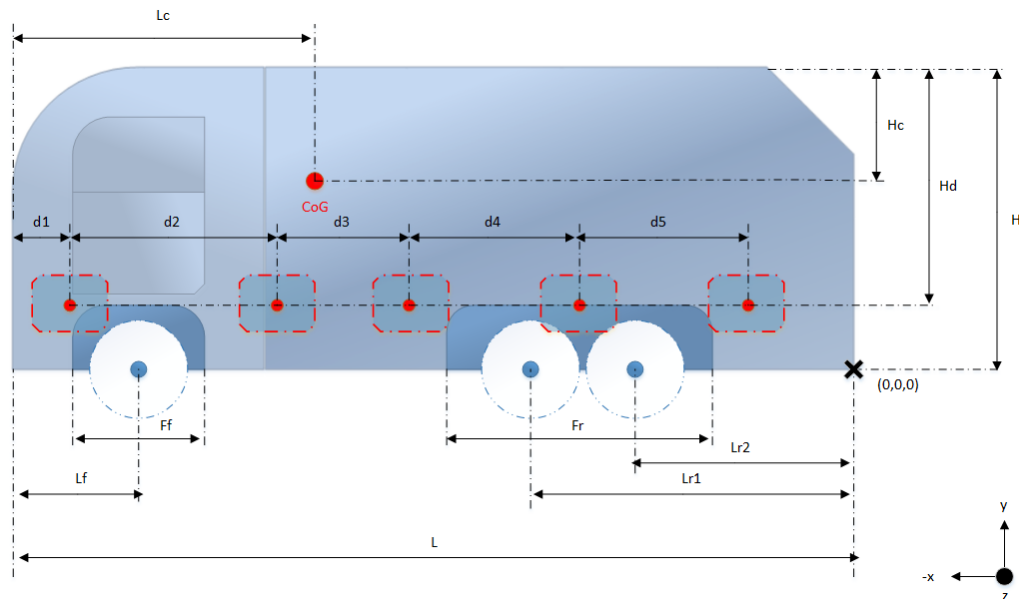
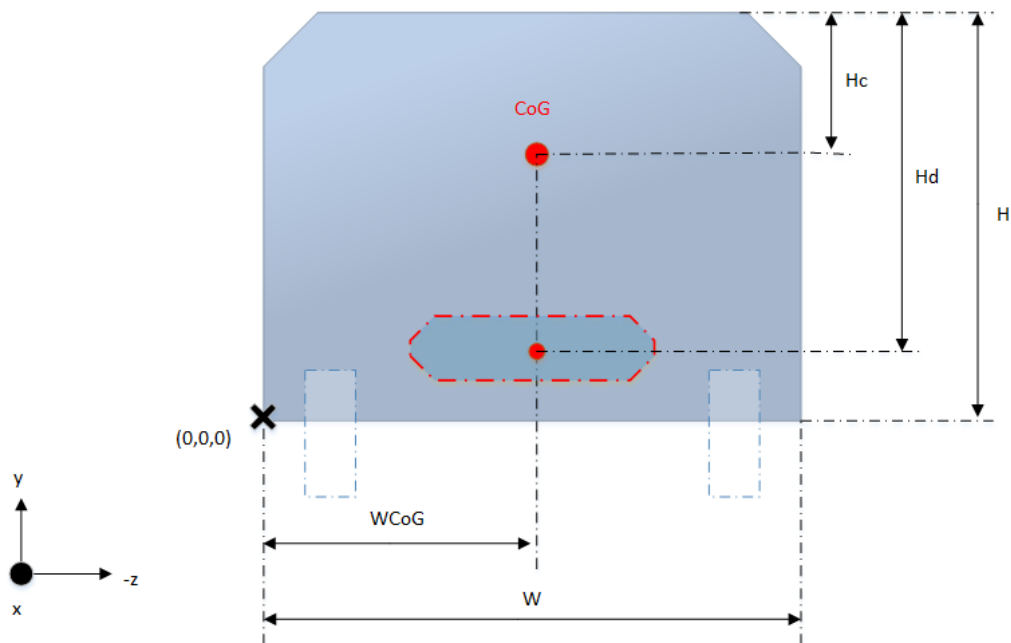
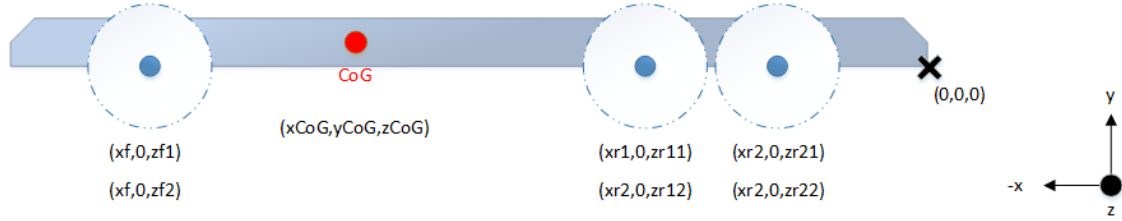
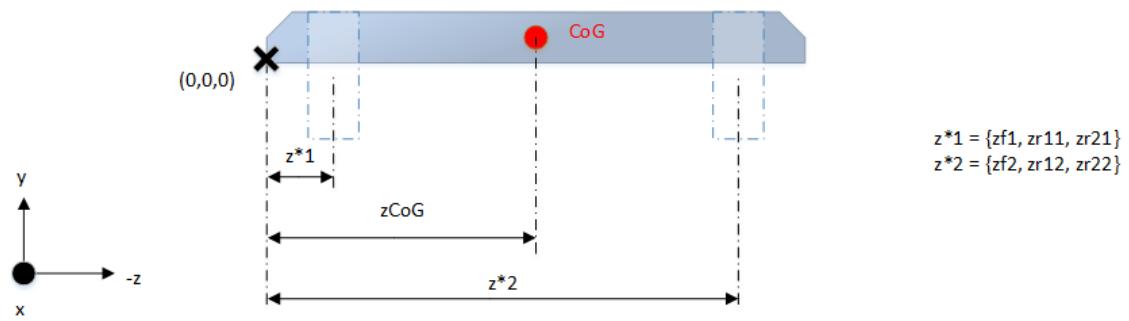

Figure 1: Truck body side view
Figure 2: Truck body rear view
Figure 3: Truck chassis side view
Figure 4: Truck chassis rear view
1. (**6 pts**) Sketch the setup (truck + chassis + wheels). Everything has to be visible, easily distinguished and placed in the coordinate system as in the Figure 1 (yes, unfortunately alongside negative x axis). All the important coordinates have to be marked in (negative) meters (mark them as, for instance, (x_1, y_1, z_1) and label those values in a table). In essence, the sketch has to be a combination of figures 1 and 3, with markings the same as on 3.
Truck body dimensions are marked on Figure 1 and Figure 2. The origin of a coordinate system is placed in rear left corner of a truck body. Coordinate axes form a right handed coordinate system, as shown in figures.
Truck chassis coordinates are marked on Figure 3 and Figure 4. The origin of a coordinate system is placed in rear left corner of a truck chassis and corresponds to the origin on Figure 1. Coordinate axes form a right handed coordinate system, as shown in figures.